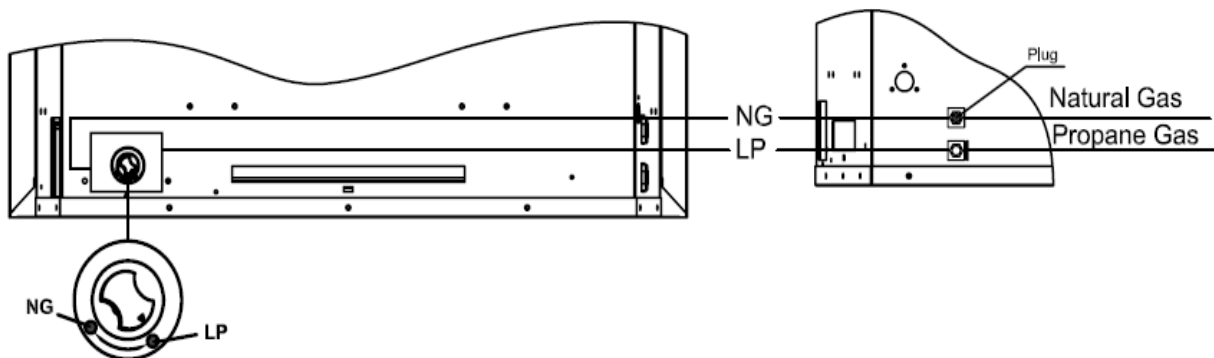

Figure 10
2. For PROPANE GAS, press in knob using a flat screw driver with a blade the width of a quarter and turn knob counterclockwise  until the knob locks into the LP position (see Figure 10). Selection valve must be locked into either the LP position or the NG position.